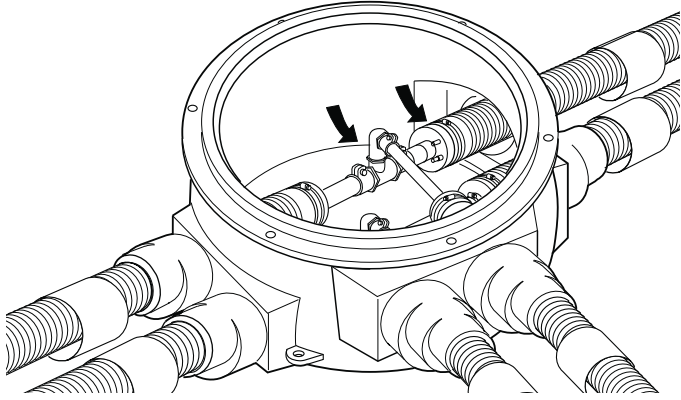

Figure 4-55: Final connections
- Insert all pipes into the Connection Vault and make all service pipe connections, as shown in **Figure 4-55**; then perform a pressure test.